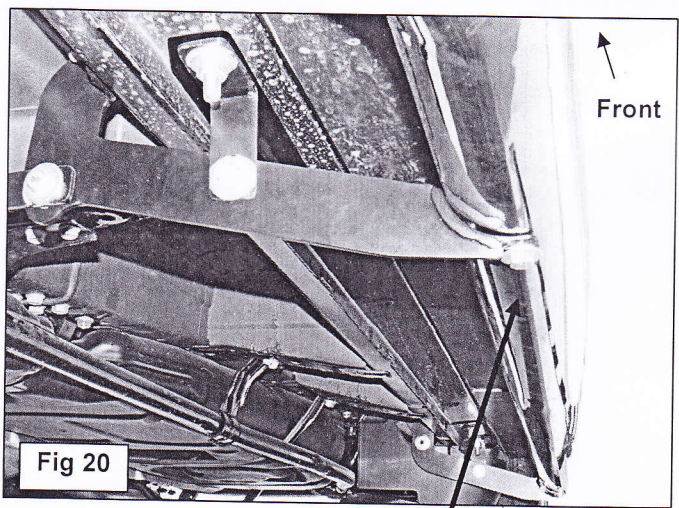

Fig 20
16. Select the driver/left Sidebar. Carefully place the Sidebar in position on top of the Brackets. Line up the threaded holes in the Sidebar with the slots in the Brackets. Bolt the Sidebar to the Brackets with (4) 8mm x 25mm Hex Bolts, (4) 8mm Lock Washers and (4) 8mm x 24mm STD Flat Washers, (Figure 20). Do not tighten hardware at this time.